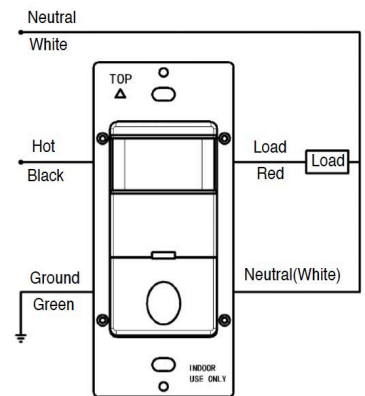

fig.2
1. Connect lead wires as shown in WIRING DIAGRAM (see fig.2): Black lead to Line (Hot), Red lead to Load wire, White lead to Neutral wire, Green lead to Ground